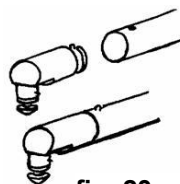

fig. 23
- Push the Outlet Part up to the stop onto the Whipping Pipe and push in Locking Device into the Outlet Part. (fig. 23)